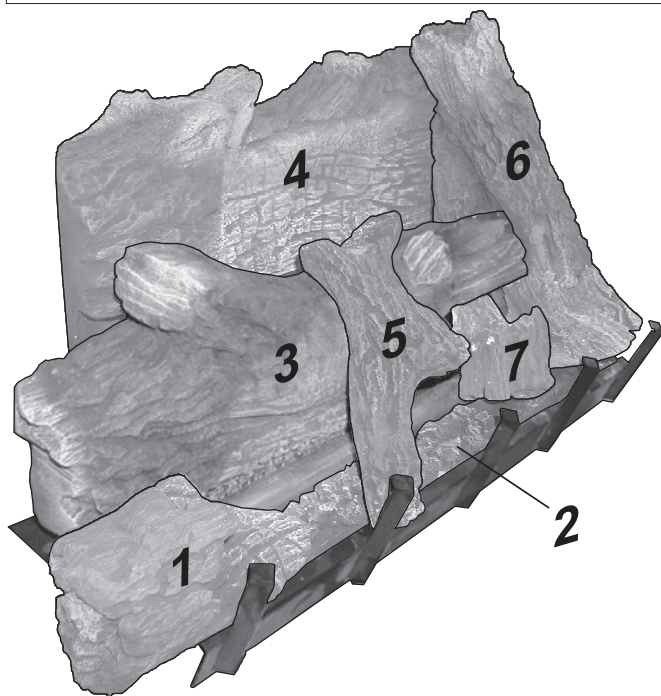

Figure 56
The positioning of the logs is critical to the safe and clean operation of this fireplace. Sooting and other problems may result if the logs are not properly and firmly positioned in the firebox. Please refer to **Figure 56** and **Figure 57** and corresponding WARNING when completing following log placement instructions.
**ATTENTION:** Do not use Figures 56 or Figure 57 to order logs. Refer to parts list and parts view on pages 82 to 83 to order logs and/or ember material for your appropriate fireplace model.
The positioning of the logs is critical to the safe and clean operation of this fireplace. Sooting and other problems may result if the logs are not properly and firmly positioned in the fireplace. Please refer to **Figure 56** and **Figure 59** and corresponding WARNING when completing following log placement instructions.